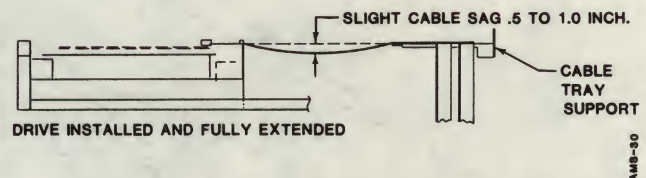

Figure 7-10. Cabinet Cable Routing to PWB
5. Pull disk drive out of cabinet to its fully extended position. Install cables through power supply slots (see Figure 7-10) and onto printed wiring board (PWB). Allow cables to sag 1/2 to 1 inch when routing cables to PWB. Install controller ground cable to E1 on disk drive Read/Write PWB.